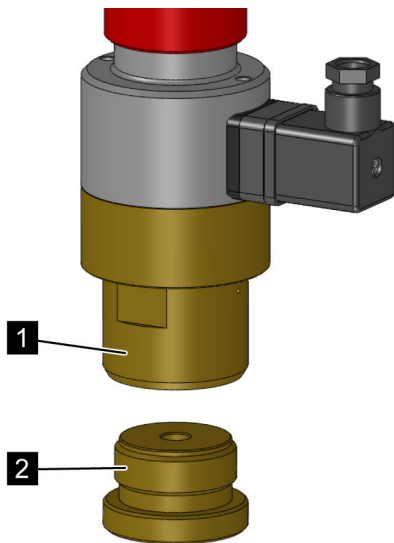

Fig. 21: Resetting the isolation
2. ➤ Screw the screw reset tool (Fig. 21/2) into the electric release device (Fig. 21/1).
3. ➤ Unscrew the screw reset tool (Fig. 21/2) out of the electric release device.